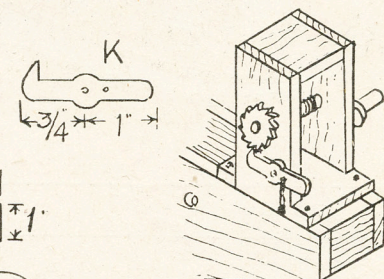

Fig. 4—Hook and winding mechanism
A pawl, of the shape shown at (K), Fig. 4, should be cut, and be fitted, as shown in the detail sketch of the cabin, Fig. 4, an elastic band or light spring, keeping it engaged with the pawl. Fix